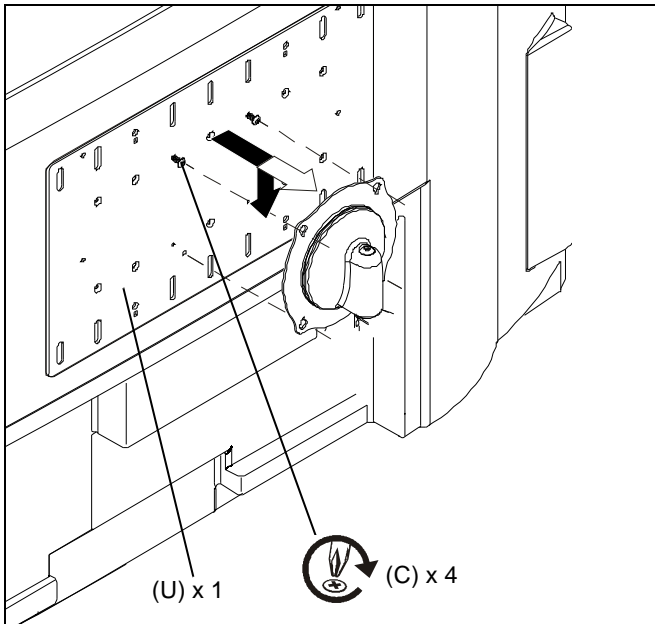

Figure 10
7. Using a hex wrench, tighten set screw (W) to secure mounting post (T) to base (V).
8. Orient front clamp (A) so that display mounting plate is facing approximate desired location. (See Figure 10)
9. Align front (A) and rear (B) clamps and loosely secure to one another using three button head cap screws (P). (See Figure 10)
1. Start two Phillips pan head screws (C) into top mounting holes on interface bracket (X). (See Figure 10)
2. Align two screws in interface bracket (U) with upper mounting holes in Centris cup and lower display until screws are seated in lower area of teardrop mounting holes. (See Figure 10)